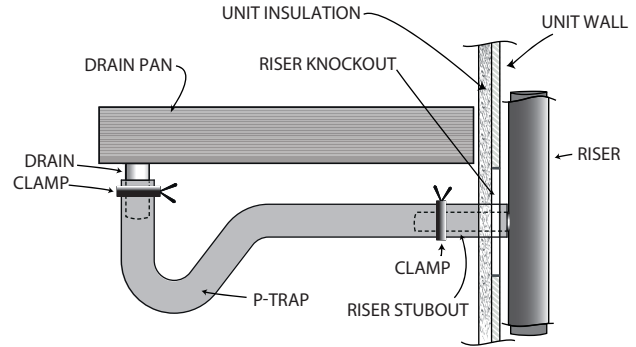

Fig. 23 — 42SU Unit Riser to Drain Installation
9. Locate the p-trap drain and rubber hose factory installed to the drain pan connection in the bottom of the unit as shown in Fig. 23.
11. Adjust the hose clamp over the riser stubout and rubber hose to hold in place as shown in Fig. 23.